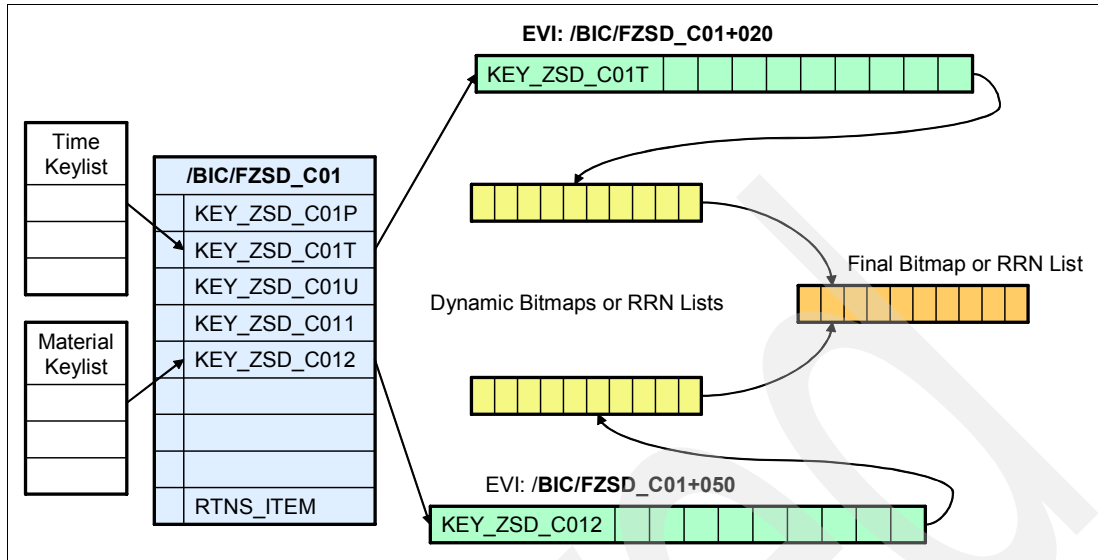

Figure 28-6 Creating dynamic bitmaps
5. A dynamic bitmap or RRN list is created for each EVI selected. Each bitmap or RRN list identifies all records in the fact table that satisfy the specific selection over the column the EVI is for. The keylists generated in step 2 provide the list of values that satisfy the selection criteria. These values can then be used by the EVI to generate either a dynamic bitmap or RRN list. Figure 28-6 on page 604 shows the process of creating the dynamic bitmaps.